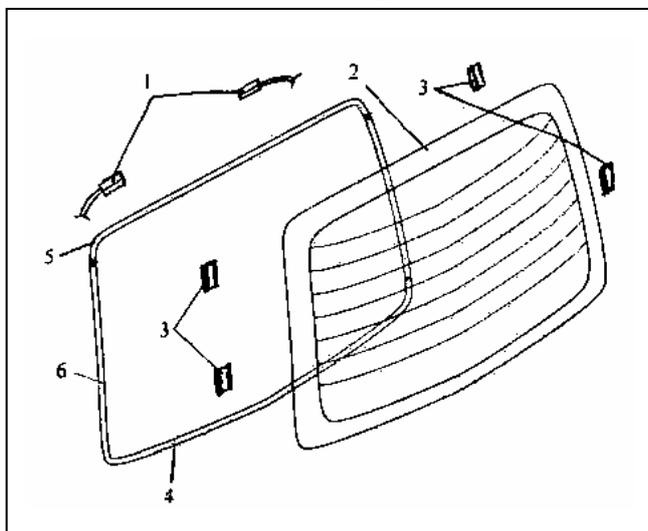

Fig. 19-26
(1) Removal sequence as shown in Fig.19-26
- ① Harness connector ④ Weather strip lower
- ② Tail door glass ⑤ Upper Weather-strip
- ③ Dual lock fastener ⑥ Both side Weather-strip